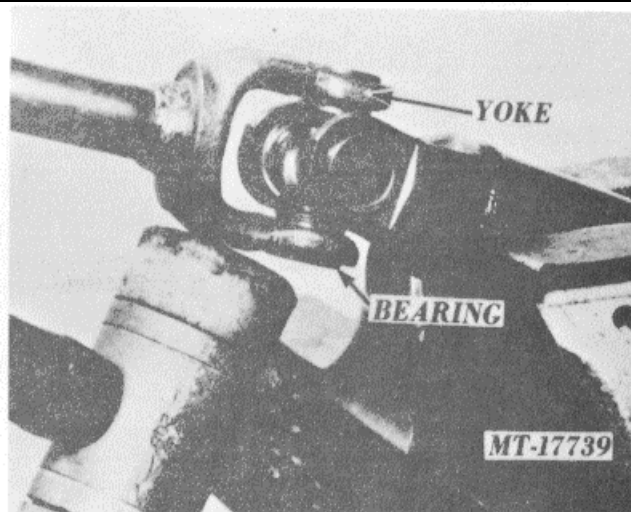

Fig. 9 Bearing Removal, Yoke in Vise
2. Place shaft assembly in vise with one yoke resting on the vise and the other yoke suspended with the bearing to be removed facing down (refer to Fig. 9). Tap yoke beside bearing to be removed, bearing should walk out of the yoke.